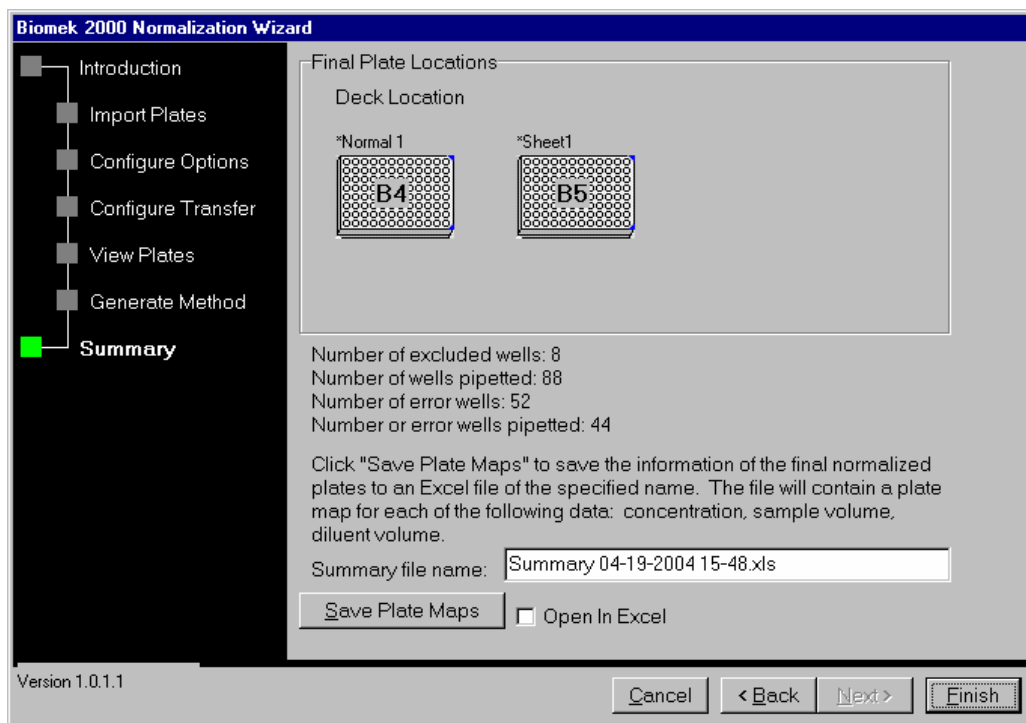
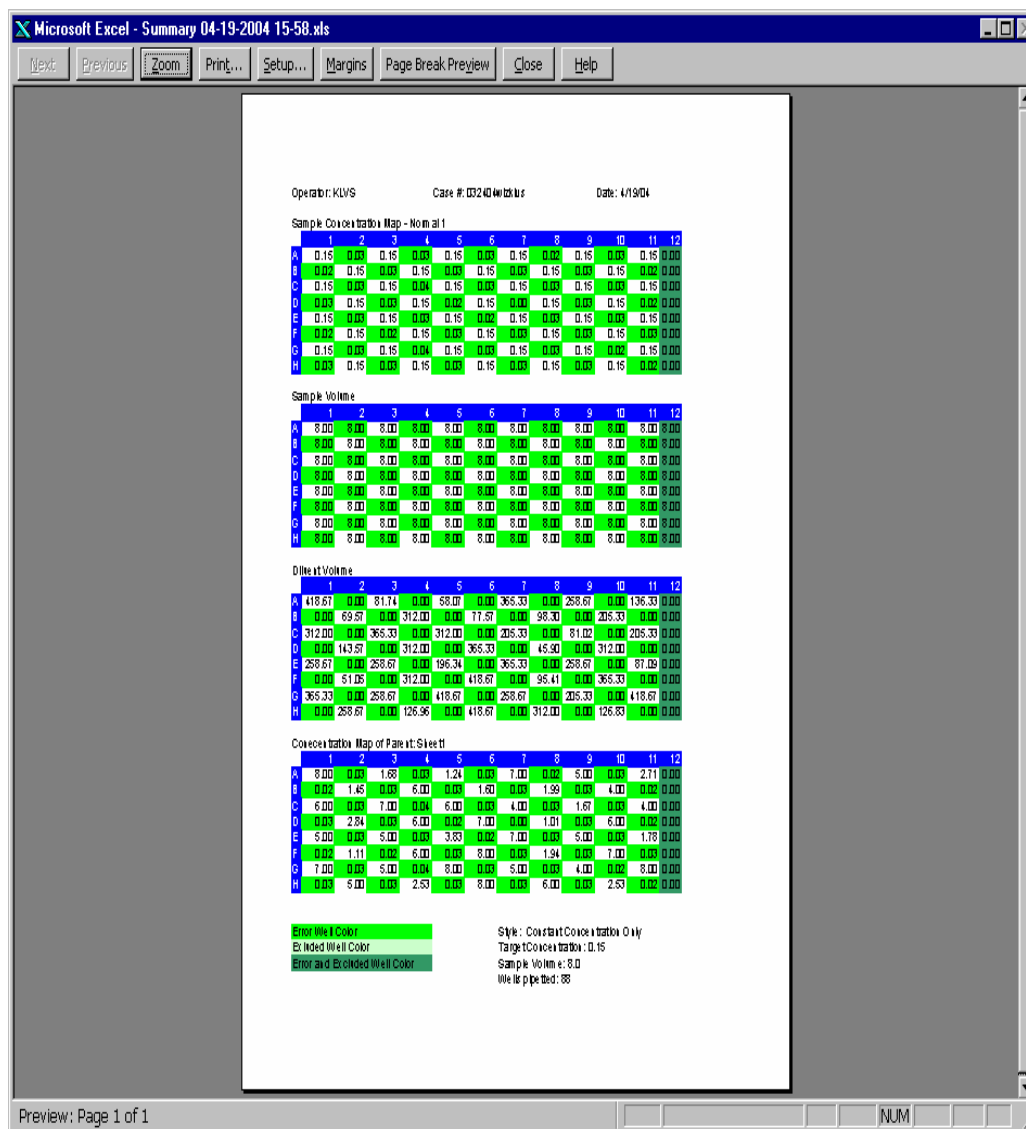

Figure 14. Summary dialog box
Figure 15. Summary plate map
5.5.12 If the Excel spreadsheet containing the Plate Map information doesn’t immediately come up, it can be accessed using the Start Menu. Scroll up to Documents and when the side window listing the Recent Documents opens, select the file of interest. The file will be named with the current date as shown in Figure 14. The date and operator’s initials will be typed into the top header of the summary sheet (Figure 15).